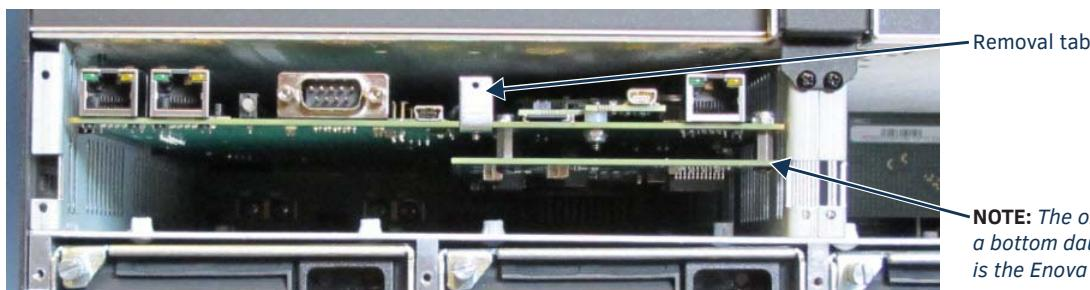

FIG. 124 Use removal tab to pull CPU straight out
5. Use the removal tab indicated in FIG. 124 to pull the CPU board assembly straight out of the enclosure.
- Push on the CPU removal tab (FIG. 124) firmly enough for the board to make a good electrical connection (avoid pushing on the connectors). When the CPU board is fully inserted, its faceplate should sit flush with the back metal.